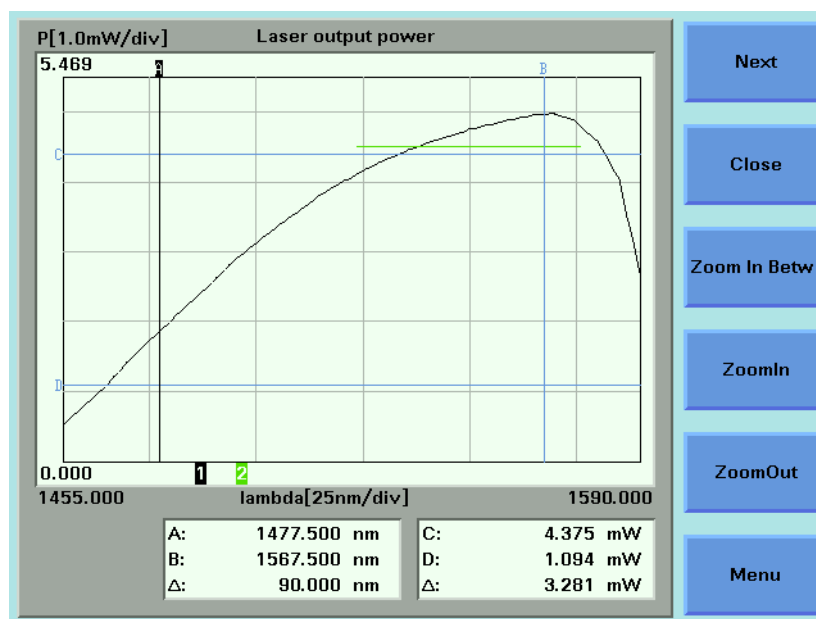

Figure 171 The Pmax Curve Screen
- 2 Move to *<Pmax curve>* and press *Enter*. The Pmax Curve Screen, as shown in Figure 171, appears.